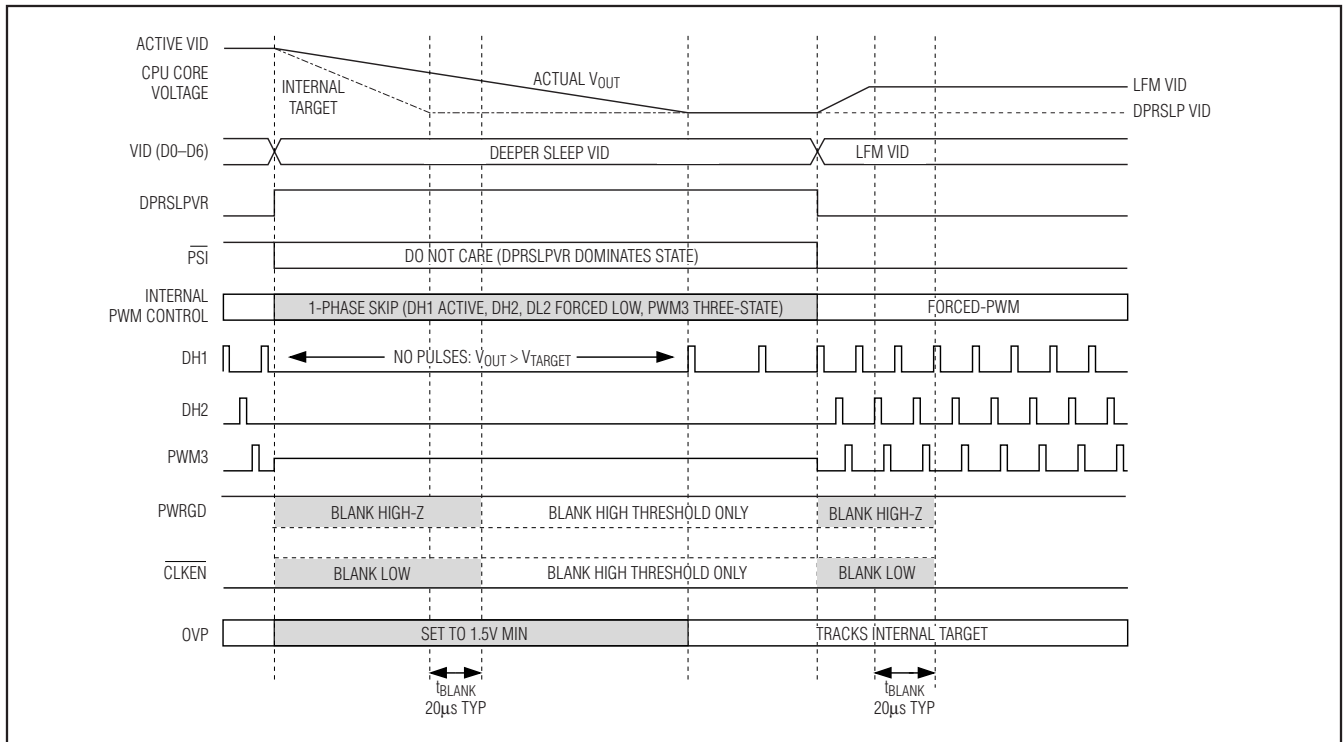

Figure 6. Standard C4 Transition
- **Standard C4 Deeper Sleep Exit:** When exiting deeper sleep (DPRSLPVR pulled low) while the output voltage is regulating to the deeper sleep voltage, the MAX17030/MAX17036 immediately activate all enabled phases and ramp the output voltage to the LFM DAC code provided by the processor at the slew rate set by  $R_{\text{TIME}}$ . The controller blanks PWRGD and  $\overline{\text{CLKEN}}$  (forced high impedance) until 20 $\mu\text{s}$  after the transition is completed. See Figure 6.